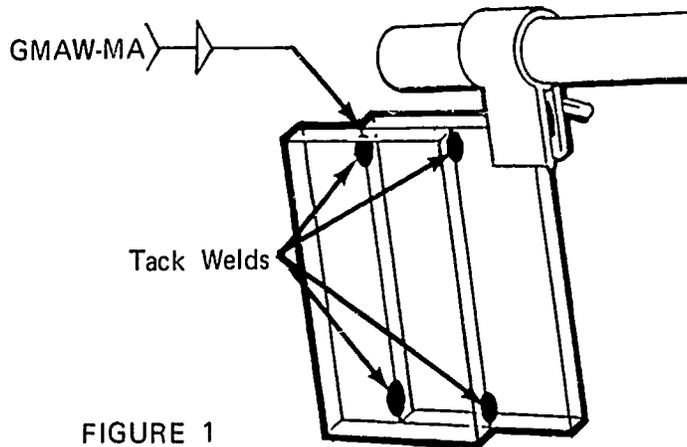

FIGURE 1
- C. Position two plates to form a lap joint and tack (Figure 1)
- D. Position plate in vertical position as shown in Figure 1